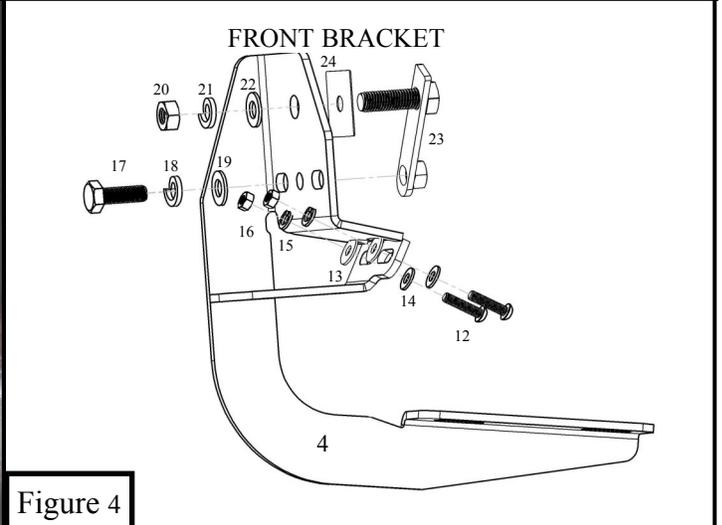
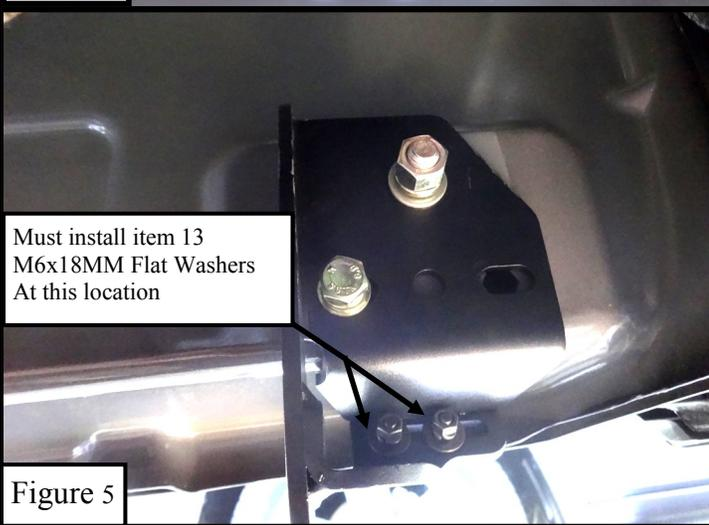

Figure 4
Figure 5
- Install (1x) "A" mounting bracket (item 3), and attach it to the rocker panel using (1) M10 hex head bolt (item 17), (1x) M10 lock washer (item 18), (1x) M10 flat washer (item 19), (1x) M12 hex nut (item 20), (1x) M12 lock washer (item 21), (1x) M12 flat washer (item 22), (2x) M6 button head bolt (item 12), (2x) M6 18mm flat washer (item 13, see figure 5), (2x) M6 12mm flat washer (item 14), (2x) M6 lock washer . *Do not fully tighten at this time, Figure 4 & 5.*